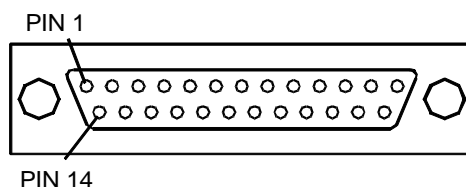

Figure 3-58, Harness Handwheel Connector
7. **Figure 3-58** illustrates the harness handwheel connector. **Table 3-7** shows the Handy Pulser connector pin assignment.